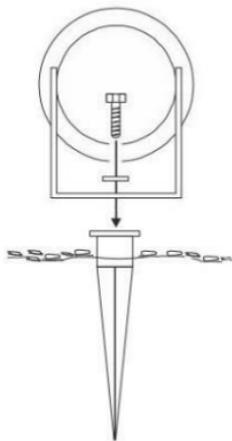

Fig. 1
- Choose a position for the luminaire ensuring the ground is suitable to firmly hold the spike and luminaire in position. Check the ground is not liable to flooding and the spike does not infringe with any underground pipes or cables (see Fig. 1)